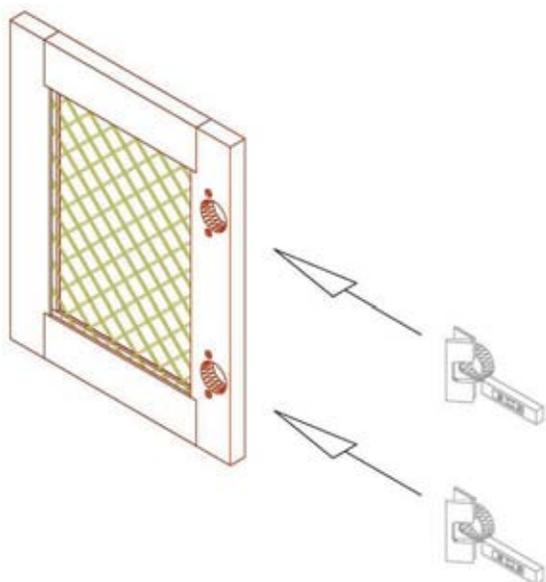

Figure 2a
2. Lay the door on a flat, scratch-free surface with the hinge holes facing up. Take the first hinge and with the rectangular cover plate open press the round part of the hinge firmly into the holes in the door and snap the rectangular plate closed (**Figure 2a & 2b**). Repeat for the remaining hinges.